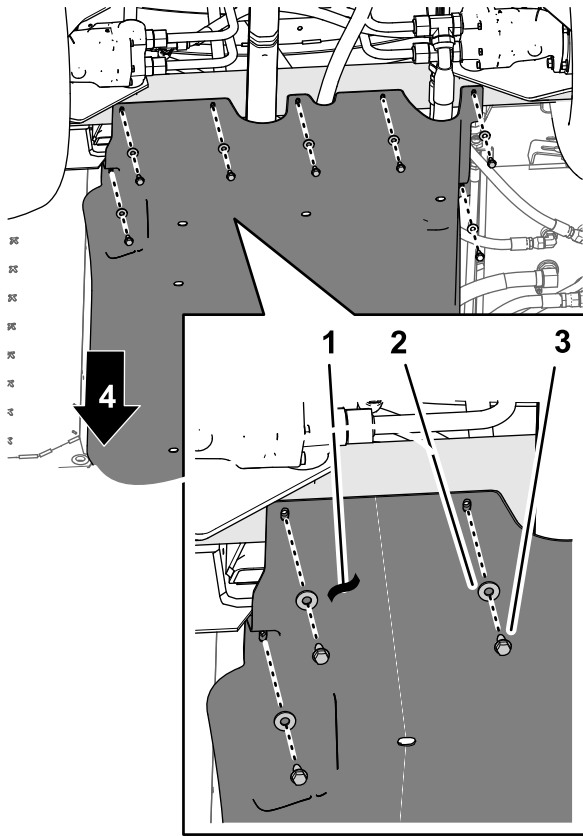

Figure 124
- Align the holes in the rear part of the undercarriage shroud with the holes in the chassis (Figure 124).
- Assemble the rear part of the undercarriage shroud to the chassis with the 7 flange-head bolts (5/16 x 7/8 inch) and 7 washers (5/16 inch) that you removed in step 1 of 7 Removing the Undercarriage Shroud (page 14) (Figure 124).